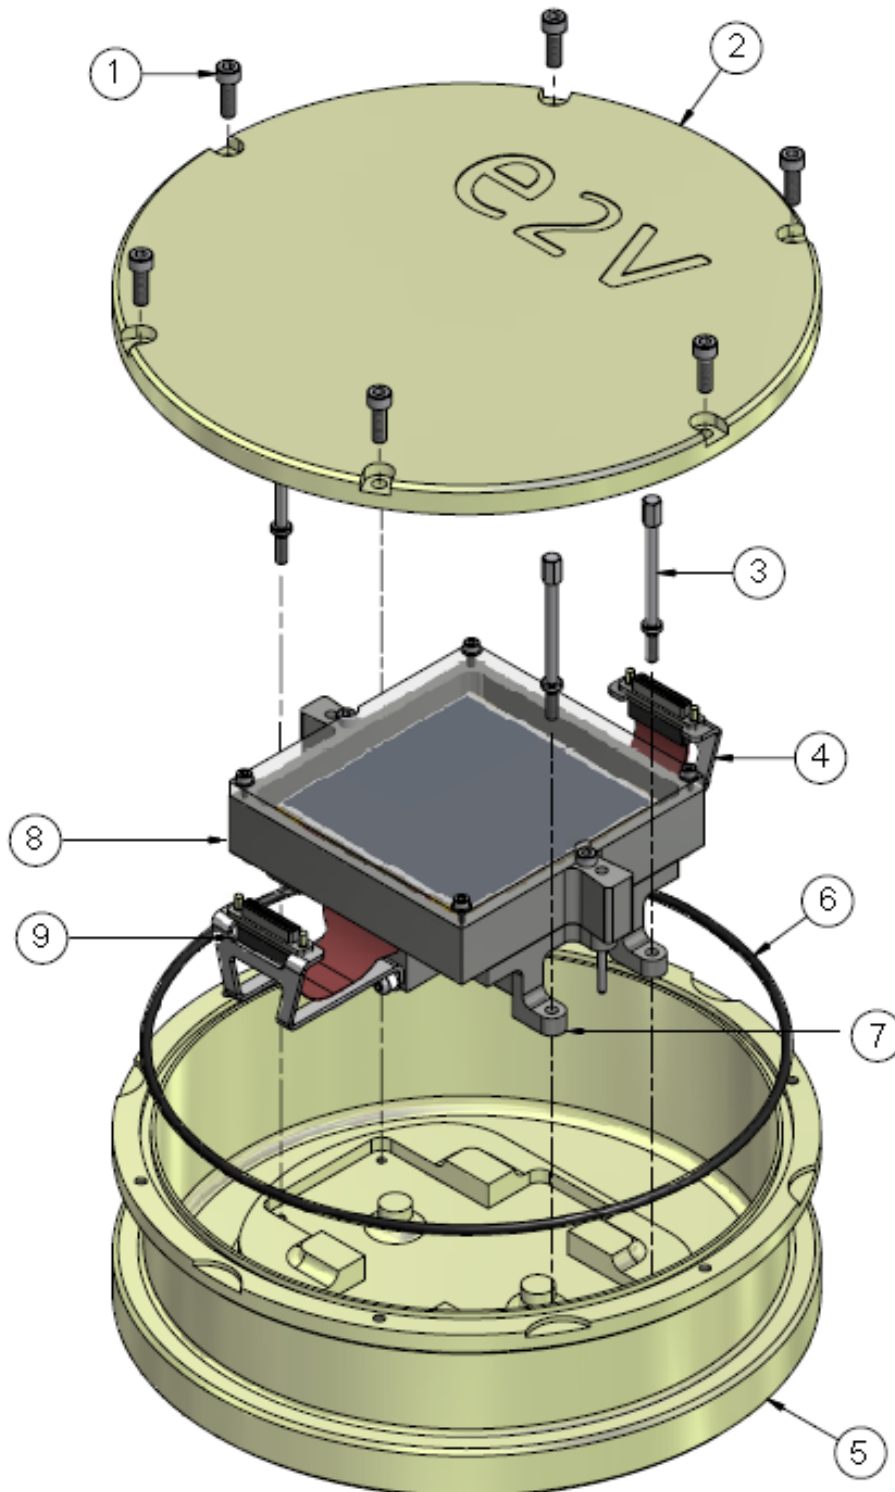

Figure 1: Exploded view of assembly
Consists of (see Figure 1):
Note: Not shown in Figure 1 are the push fit shorting blocks supplied on each connector.
Read in conjunction with Figure 1.
- 6.2 The CCD231-C6 device is supplied from e2v on a handling jig, item 7 in Figure 1. It is secured to the handling jig on each stud via a nut and a set of 2 crinkle washers per stud. The crinkle washers are needed when there is a difference in coefficient of thermal expansion between the cold plate and the studs/shims (which are made of invar 36). These nuts and crinkle washers should be used where possible to mount the device to a cold plate.